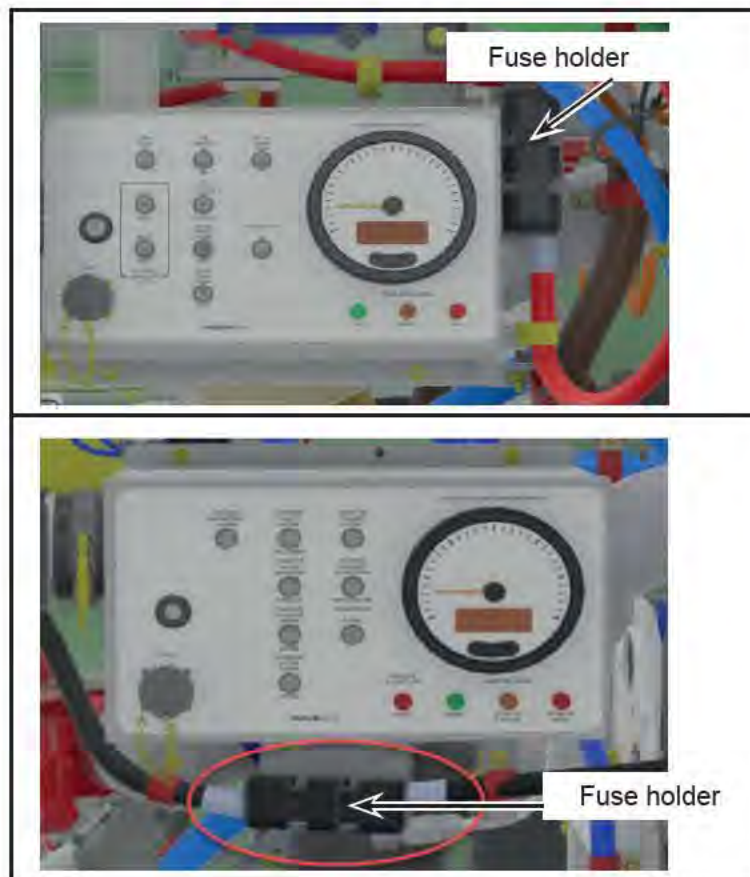

Figure 1 - Possible location of the fuse holder N84769
- 1.7. Locate the 250A fuse holder N84769 for the radiator fan power supply. See Figure 1.
- 1.8. Remove the cover from the fuse holder. Retain the cover. See Figure 1.